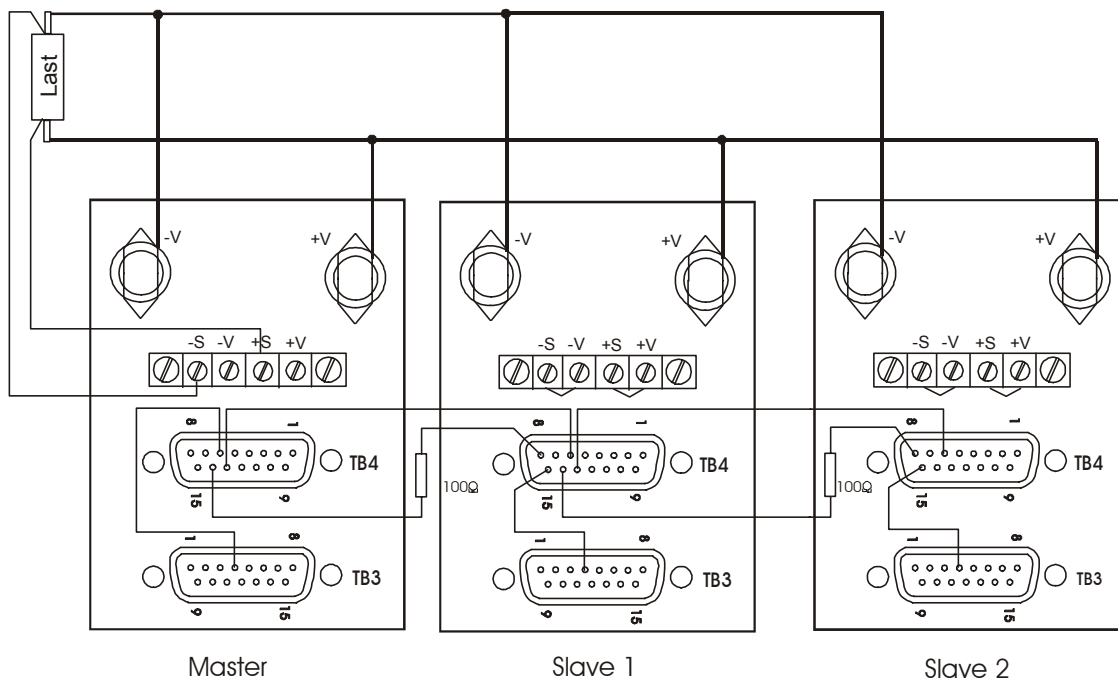

Fig. 7
10.3 Configuration (see Fig. 7)
2. Connections (see Fig. 7)